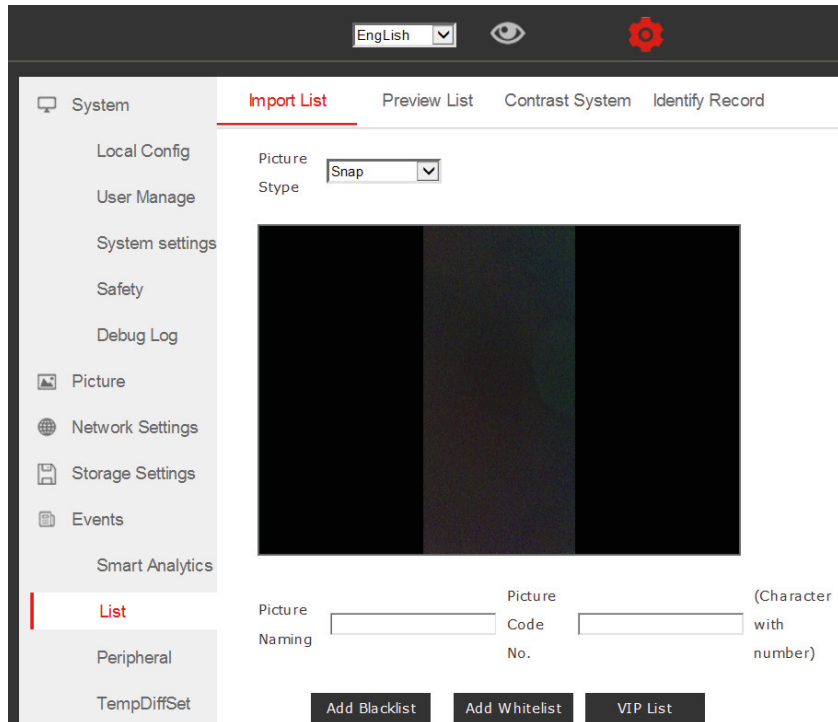

Fig.13
- **EVENTS > List tab** – (Fig.13)